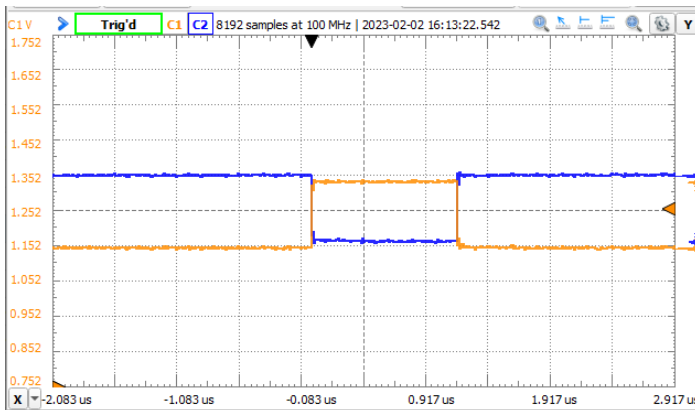

Figure 6: Typical LVDS signal
2. For the inputs the user has the choice between CMOS and LVDS input buffers (see Figure 6).